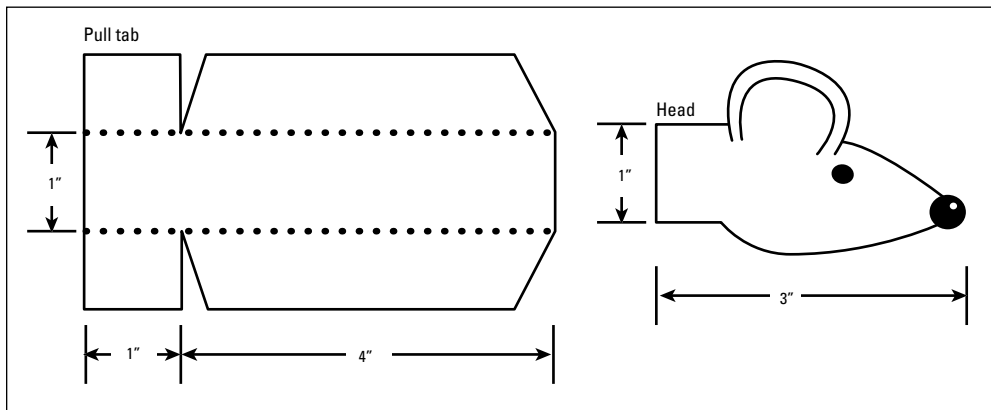

Figure 8-7:
3. Copy the pull tab and mouse head from Figure 8-7 onto a second piece of card.